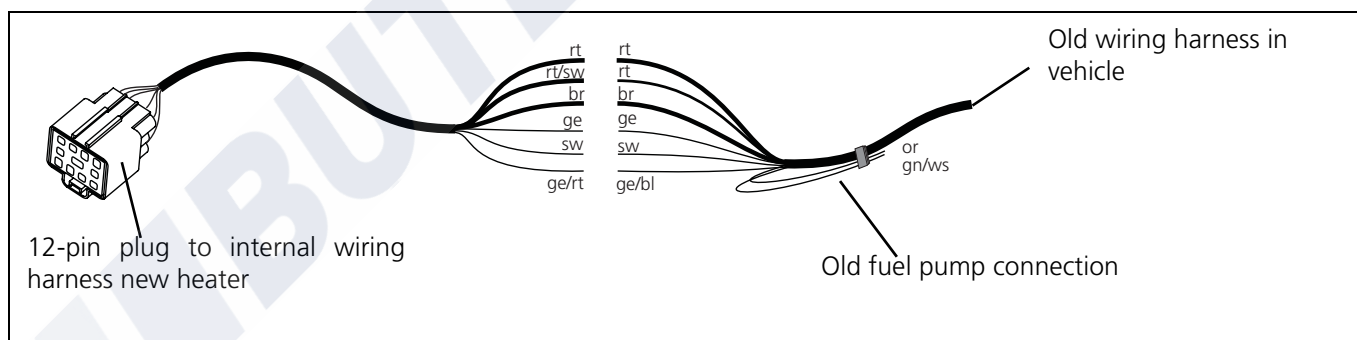

Fig. 702 Connect new 12-pin plug with old wiring harness
- 5 Connect 25 cm of new external wiring harness with 12-pin plug to old wiring harness (see Table 701 and Fig. 702).